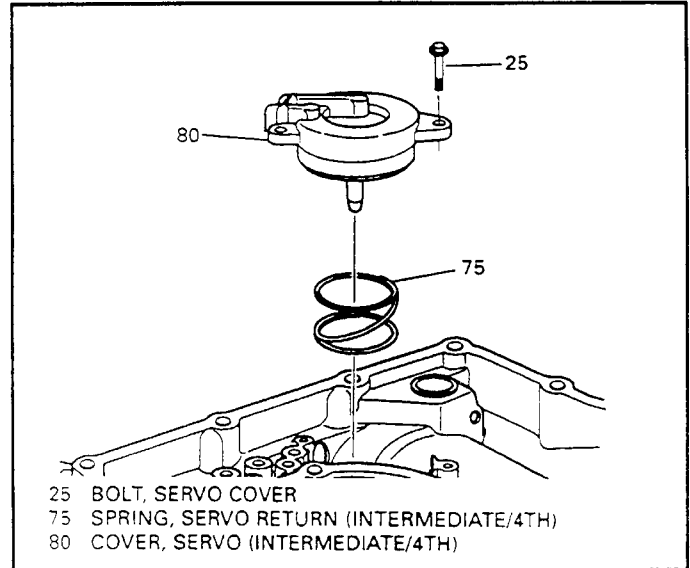

Figure 51
25. Remove three Int/4th servo cover retaining bolt as shown in Figure 51.
26. Remove the Int/4th servo cover (80), the servo piston and servo return spring (See Figure 51).